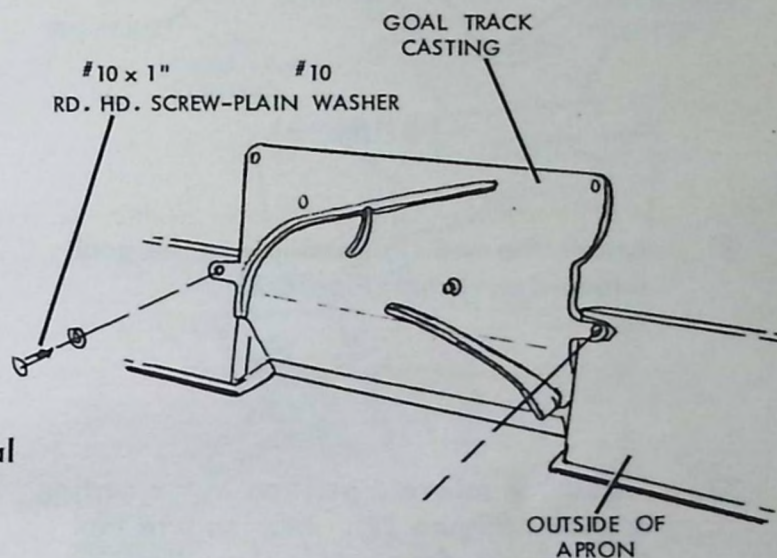

FIGURE 19
29. Place the goal casting in the apron opening and attach the two (2) casting tabs to the outside of the aprons, as shown. (Figure 19)